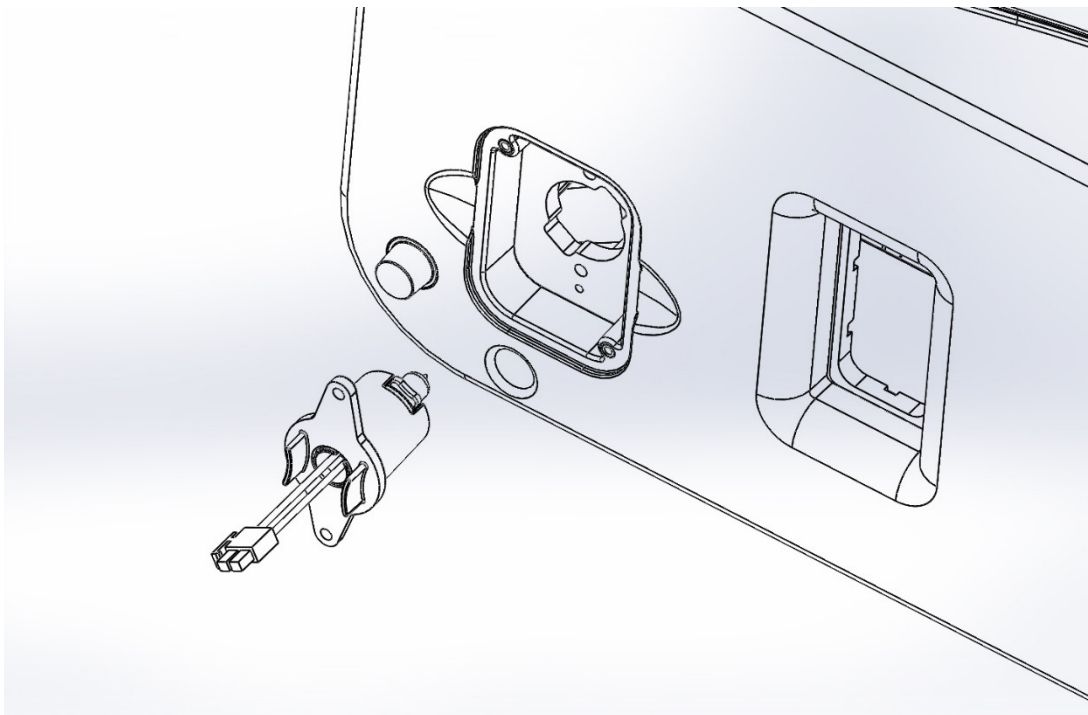

Fig 3
5. Grab the two tabs on the plastic lamp assembly and remove the whole lamp assembly, this may need to be rotated slightly to allow it to be removed (**fig 3**).